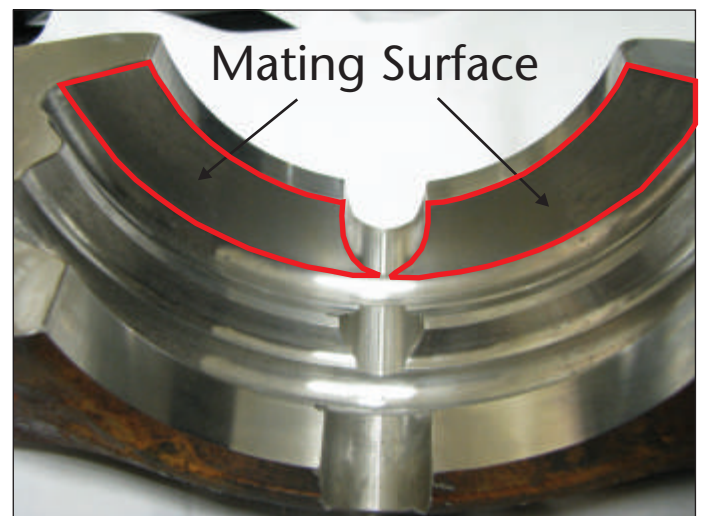

FIGURE 1- Mating surface of clamp
- Visually inspect mating contact surfaces on the clamp (FIGURE 1). Look for signs of impact damage that would obstruct the clamps from sliding over the flanges. If a raised surface exists due to a gouge, a grinder can be used to remove the excess material. The primary goal is to allow the mating clamp surface to freely slide over the bell of the flange.